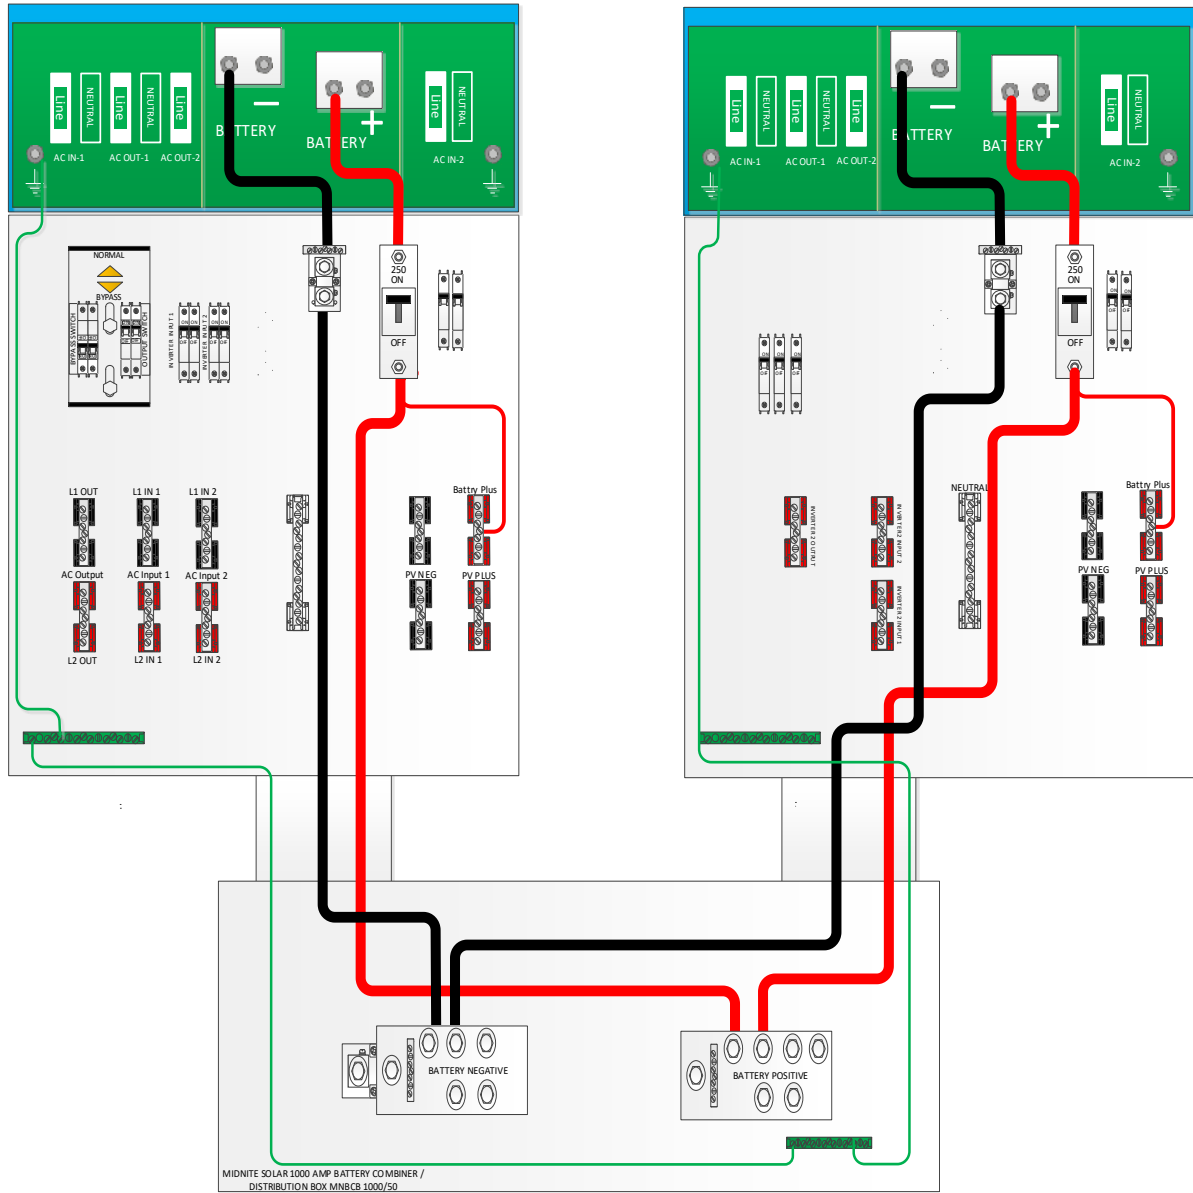

Figure 10-NA 5kVA Dual Stack VE Panel Battery Connection Points 3kVA Similar
- VE Panel's in parallel operation can be used with a *battery combiner* for larger dual Quattro 5k VA inverter/charger systems shown in Figures 10 and 11.
- When using a battery monitoring shunt in a dual configuration it should be wired as shown in the diagram in Figure 10 using a Battery Combiner Box such as the MidNite Solar MNBCB 1000/50 and using the 1000A/50mV shunt provided or replacing with a Victron Energy shunt for battery State of Charge (SOC).